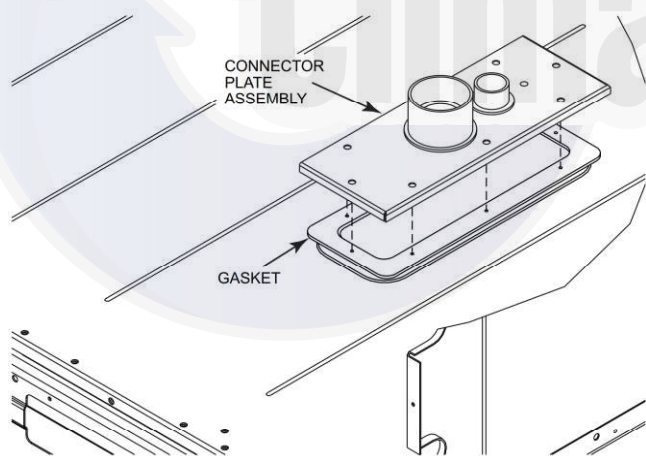

Fig. 49 — Installing Thru-the Base Option
3. Place the gasket over the embossed area in the basepan, aligning the holes in the gasket to the holes in the basepan. See Fig. 49.